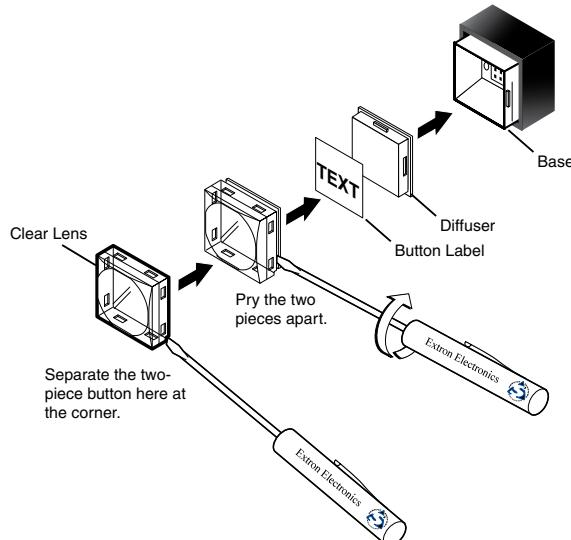

Figure 87. Illuminated Button Label Replacement
1. Remove the button from the matrix switcher; use a small, flat bladed screwdriver such as an Extron Tweeker to gently pry a button out from the front panel (see figure 87).